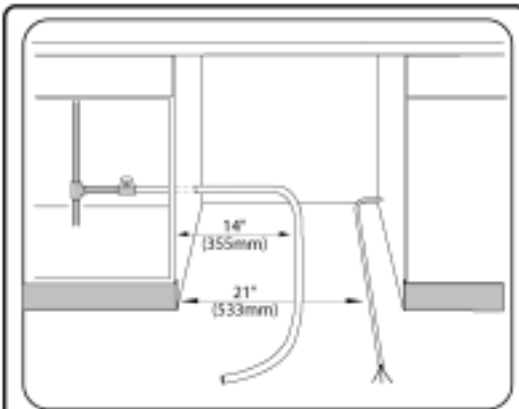

Figure 18/illus. 18
- 1) Straighten and position the hot water supply line and the electrical supply cable as shown in Figure 18 so that they will align with their channels under the dishwasher base.